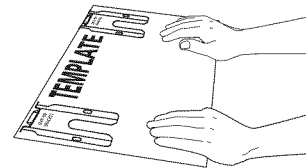
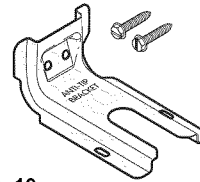
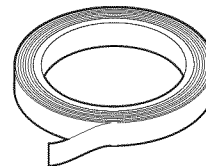

Fig. 9
Fig. 10
Fig. 11
- Anti-Tip Template (Fig. 9), Anti-Tip bracket, 2 mounting screws (bracket and screws are supplied with range - Fig. 10) and masking tape (Fig. 11).